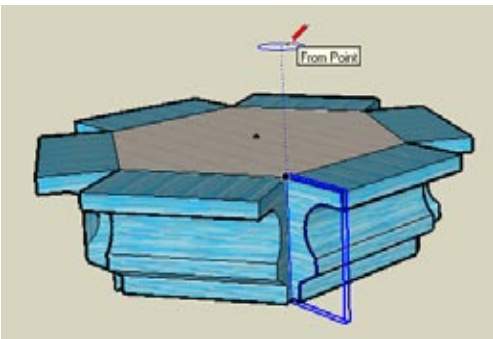

Figure 4-27
6. The next step is to draw the Follow Me circle, and it is important that the circle have the correct number of sides. Because this model is based on a hexagon, the number of circle sides should be divisible by six. This ensures that the segments of the circle, and therefore the segments of the resulting round corner, will align with the edges of the Push/Pull faces. Activate Circle and make sure the number of sides is a multiple of six (24 is a good number). As you did for the rectangular table, place the center directly above the corner of the table (Figure 4-27). Do not click yet to complete the circle.